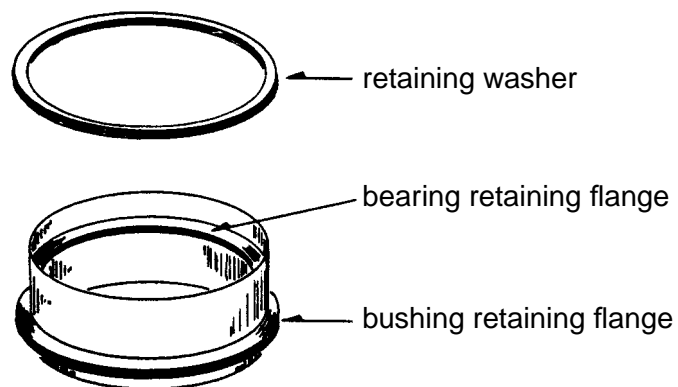

Figure 1 - General Description of a CSP 314 Bushing and Washer
- 4.1.1 CSP 314 bushings and washers as specified on the engineering drawing. Refer to Figure 1 for a general description of a CSP 314 bushing and washer.